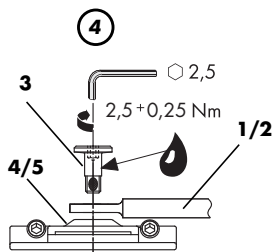

Fig. 4
- 4 Secure connecting rod on cushioning (1/2) on to top hinge block (4/5) using locking screw M4 (3) (see Fig. 4) (torque  $2.5 + 0.25$  Nm).